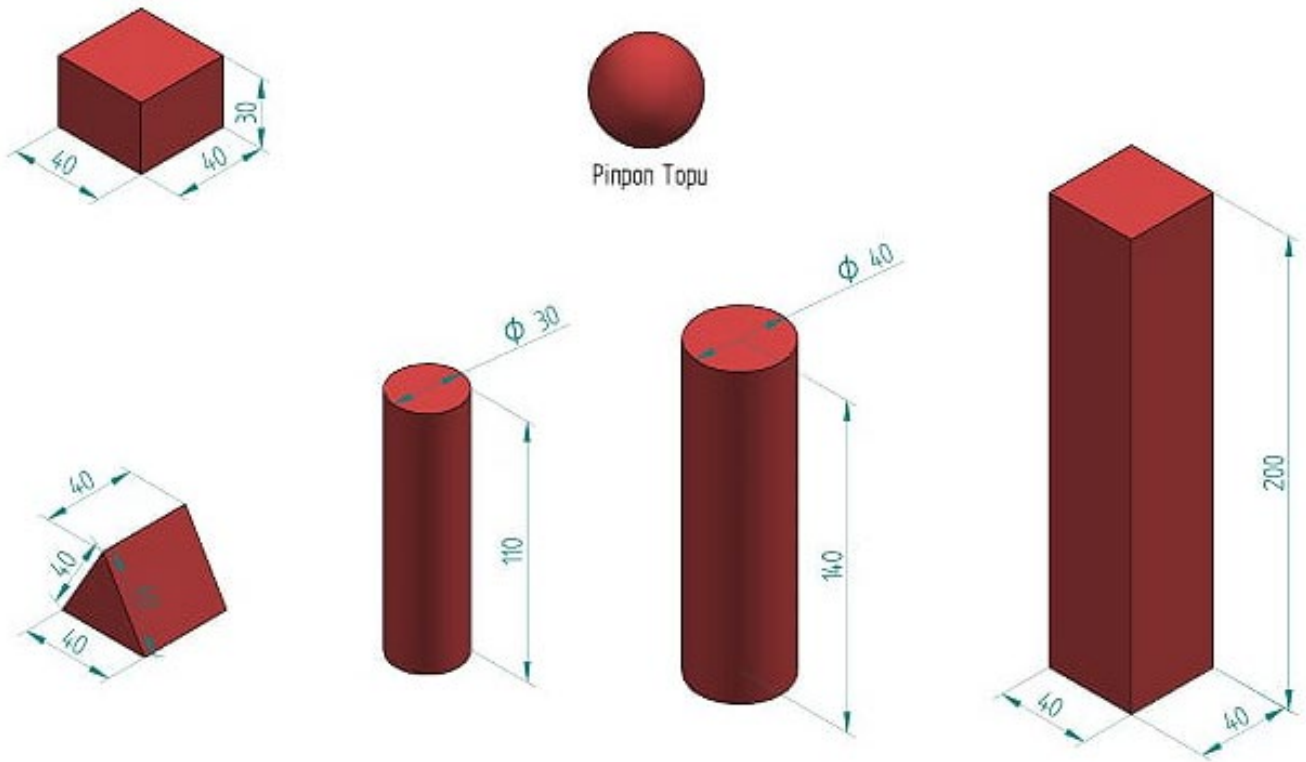

Figure 6- Objects
6) There are 6 objects to be placed on the platform. Dimensions are shown at figure 6.